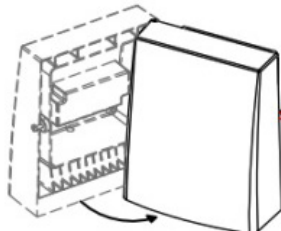
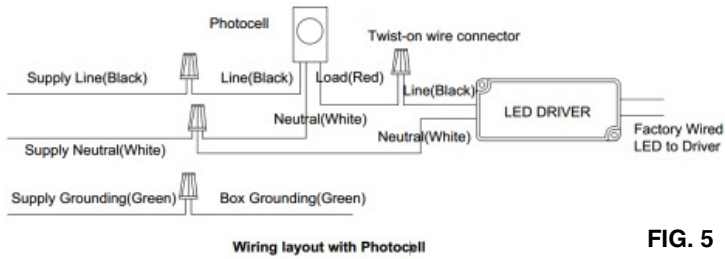
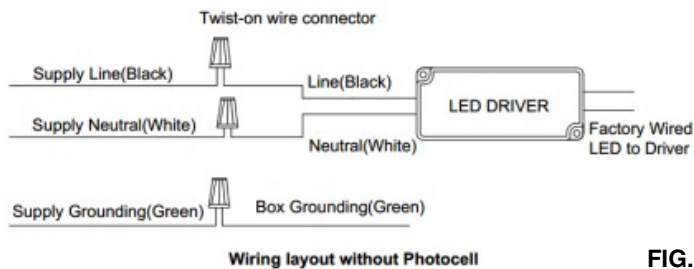

FIG. 3
FIG. 5
FIG. 6
2. Utilize twist-on connectors to make electrical connections (FIG. 5, 6). All electrical connections must remain inside back box. Fasten the wires by a provided cable tie, prior to closing and securing enclosure. Tighten enclosure screw to seal fixture. (FIG.3)
2. Please refer to FIG.5 or FIG.6 for wiring, remove the screw at the knuckle of the Mounting Pole by screw driver put the wires pass through the hole of the Mounting Pole.
2. Open the back box put the wires (SJTW 18AWG/3C)(provided by others) into the back box from the strain relief, twist the stain relief tightly (FIG.11), refer to FIG.5 or FIG.6 for wiring.